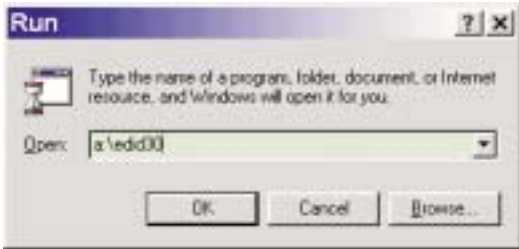

Fig. 8
- 3. At the submenu, type the letter of your computer's floppy disk drive followed by :EDID301 (for example, A:\EDID301, as shown in Fig. 8).